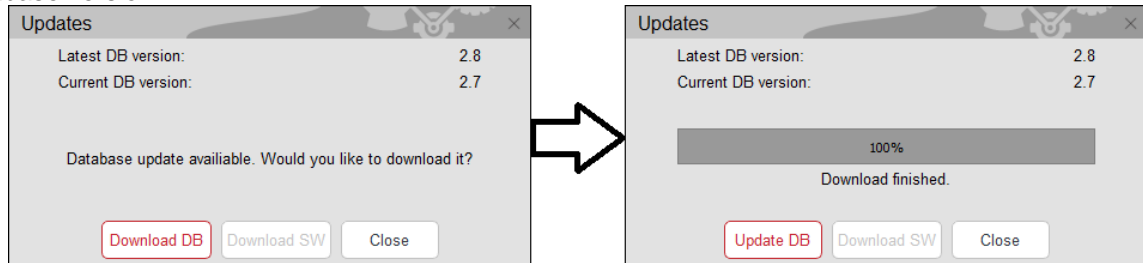

Figure 6: Database Update Window
Electrocraft makes routine updates to the CompleteArchitect™ motor database as new motors become available. The database (DB) and software (SW) can be updated at any time from the tools menu. Check the server for updates by clicking *Tools -> Check for Updates*. The *Updates* window shown in Figure 6 will search the server for all available updates and gives an option to download the latest database and software versions. After downloading, click *Update* to update the software to downloaded database version.